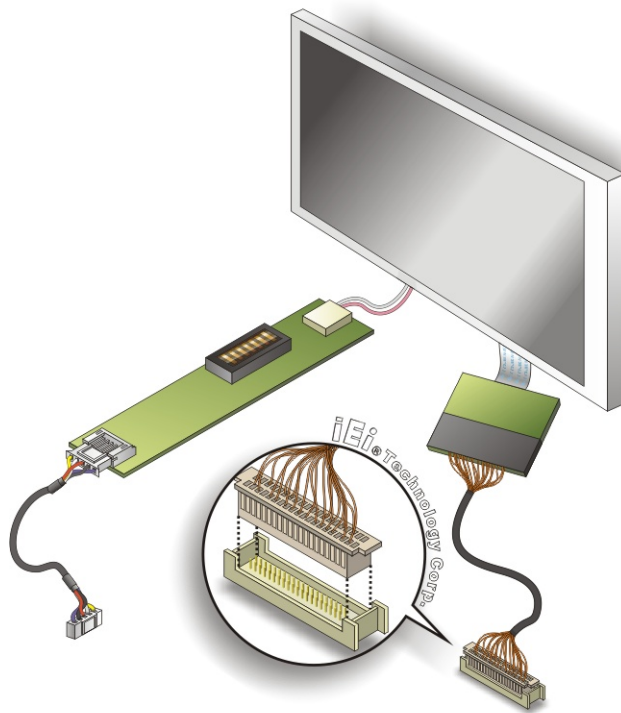

Figure 4-25: TTL Connector
Step 2: **Insert the cable connector.** Insert the connector from the LVDS PCB driving board to the LVDS connector as shown in Figure 4-25. When connecting the connectors, make sure the pins are properly aligned.
- Step 2: Insert the cable connector.** Insert the connector from the TTL PCB driving board to the TTL connector as shown in Figure 4-25. When connecting the connectors make sure the pins are properly aligned.